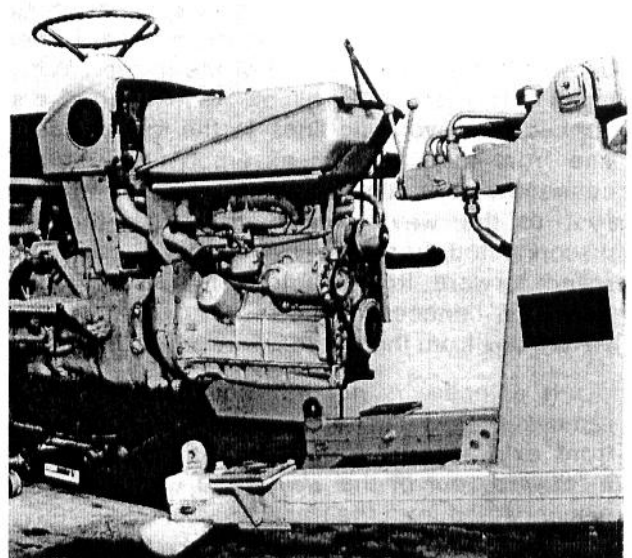

Fig. 1 — ENGINE, TRANSMISSION AND CENTER HOUSING ROLLED AWAY AS A UNIT FROM LOADER — GASOLINE ENGINE SHOWN
If the tractor *has* a loader installed, removing the engine will involve disconnecting the loader from the rear axle housing. Then lowering the rear portion of the side frames to the ground, *while* allowing the front of the side frames to pivot on the tractor. The engine is then disconnected from the front axle support and rolled rearward (with transmission and center housing as a unit) from the loader. See Fig. 1. The engine is then disconnected from the transmission case.
- l. Roll engine (with transmission and center housing as a unit) rearward *slightly* and remove spacer plates (see Fig. 9). Continue to roll engine rearward making sure that transmission case and engine clears the fitting on the loader hydraulic filter. It will be necessary to maneuver engine with the floor jack to pilot it completely free of loader. (See Fig. 1.) If tractor wheel tread is at a narrow setting, it may be neces-